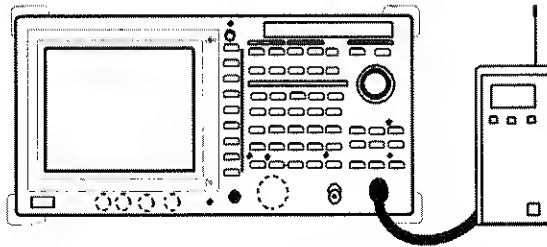

Figure 2-91 Setup for Measuring the Channel Power
1. Connect the unit as shown in Figure 2-91.